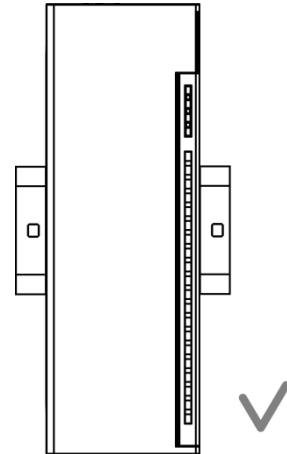

Fig. 3.1 Proper installation
2. Fasten the Device to the DIN rail or to a vertical surface using screws (see Figure 3.1).